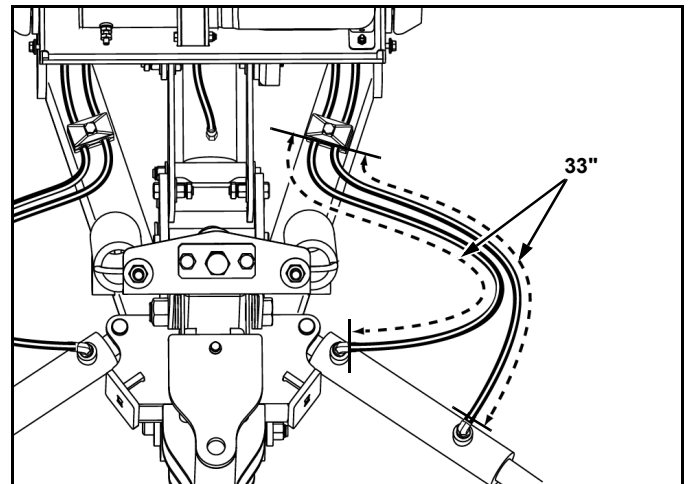

Figure 1-11
16. Adjust each hose length from clamps to hose end fittings to 33 in. and tighten both clamp screws (See Figure 1-11).